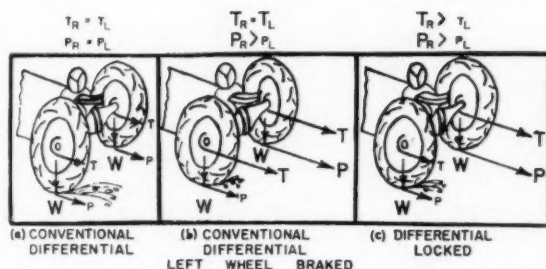

Fig. 1 Tractive effort and torque diagrams. (Assumed conditions: All W values are equal; k_R is greater than k_L in all cases)
Conventional automotive differentials divide torque equally between the two drive wheels if the slight internal friction is neglected (2). Therefore, the vehicle driving ability is twice that of the wheel with the lesser tractive effort, as shown in Fig. 1(a), where T equals torque and P equals pull. A low coefficient of friction, k , under one wheel causes excessive wheel spinning, or total immobility, as on ice. Weight distribution may be just as significant as the traction coefficient in affecting tractive effort of trucks and tractors. W represents weight in Fig. 1.
Wheel braking can benefit tractive effort by increasing the torque required to drive the wheel with the poorer traction. The torque to each axle shaft is equal, as is the case with the conventional differential without braking. The tractive effort for the better side is greater than the tractive effort on the poorer traction side, as shown in Fig. 1(b). This is true because part of the input torque on the side
A differential lock is another means for preventing immobility when one wheel loses traction, of minimizing excessive spinning of the wheel with poorer traction, and for reducing tire wear. The torque is higher on the side of better traction when a lock is engaged. Tractive effort is improved by taking full advantage of the traction on the better side, as shown in Fig. 1(c), instead of being limited to twice the traction on the poorer side. This net gain is the same as for braking with a conventional differential, but the wheels must turn or spin at the same speed. Differential locks may or may not require operator control.